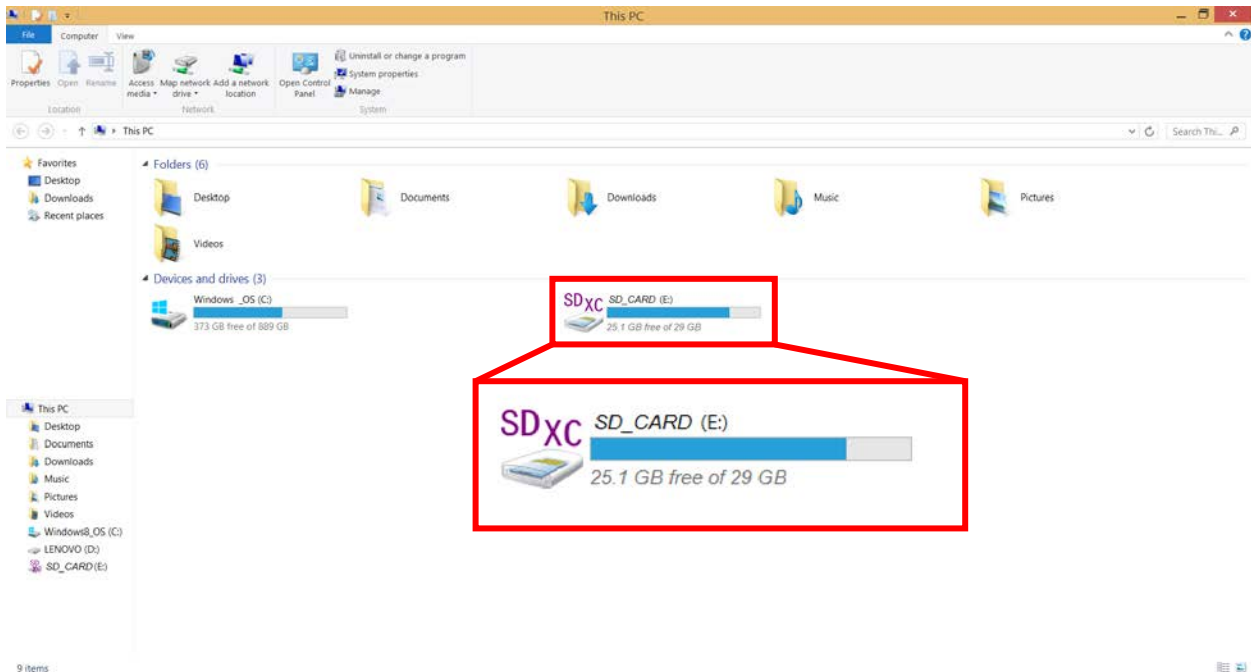

Figure A.11.16: On a Windows computer, once the SD card is inserted into the SD card reader, it should show up on the File Explorer as shown on this figure.
2. Insert the SD card into the SD card reader on the computer. For a Windows PC, the SD card will show up on the File Explorer as shown on Figure A.11.16. Double click on the SD card to view its contents.